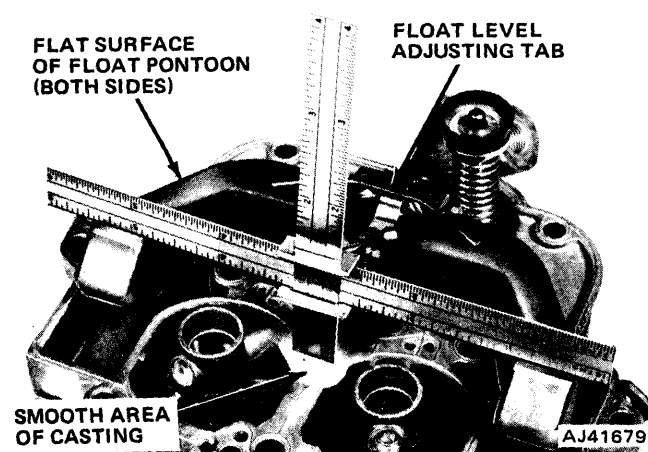

Fig. 4-127 Float Adjustment
(1) Invert air horn assembly and remove gasket.
(2) Measure distance from float pontoons to air horn casting using a T-scale. Position horizontal scale over flat surface of both float pontoons at the free ends, parallel to air horn casting. Hold lower end of the vertical scale in full contact with the smooth area of air horn casting, located midway between the main discharge nozzles (fig. 4-127).